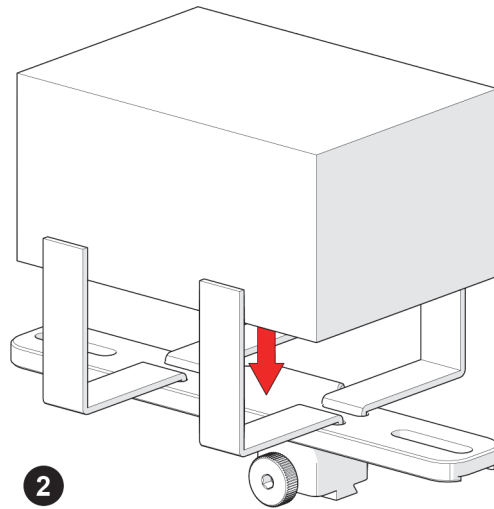

Figure 2-61 Place preamp
2. Center and place the preamp on the bracket wrapping the strap around the preamp (see Figure 2-61 on page 78).